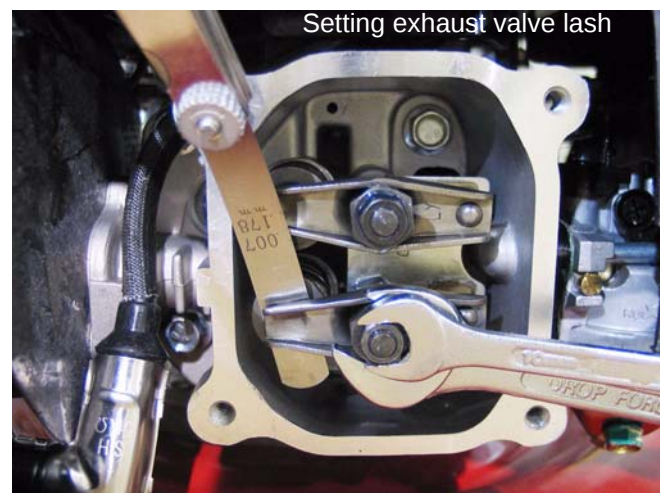

Figure 5.20
- 5.20. Check valve lash between each valve stem and rocker arm using a feeler gauge. See Figure 5.20.